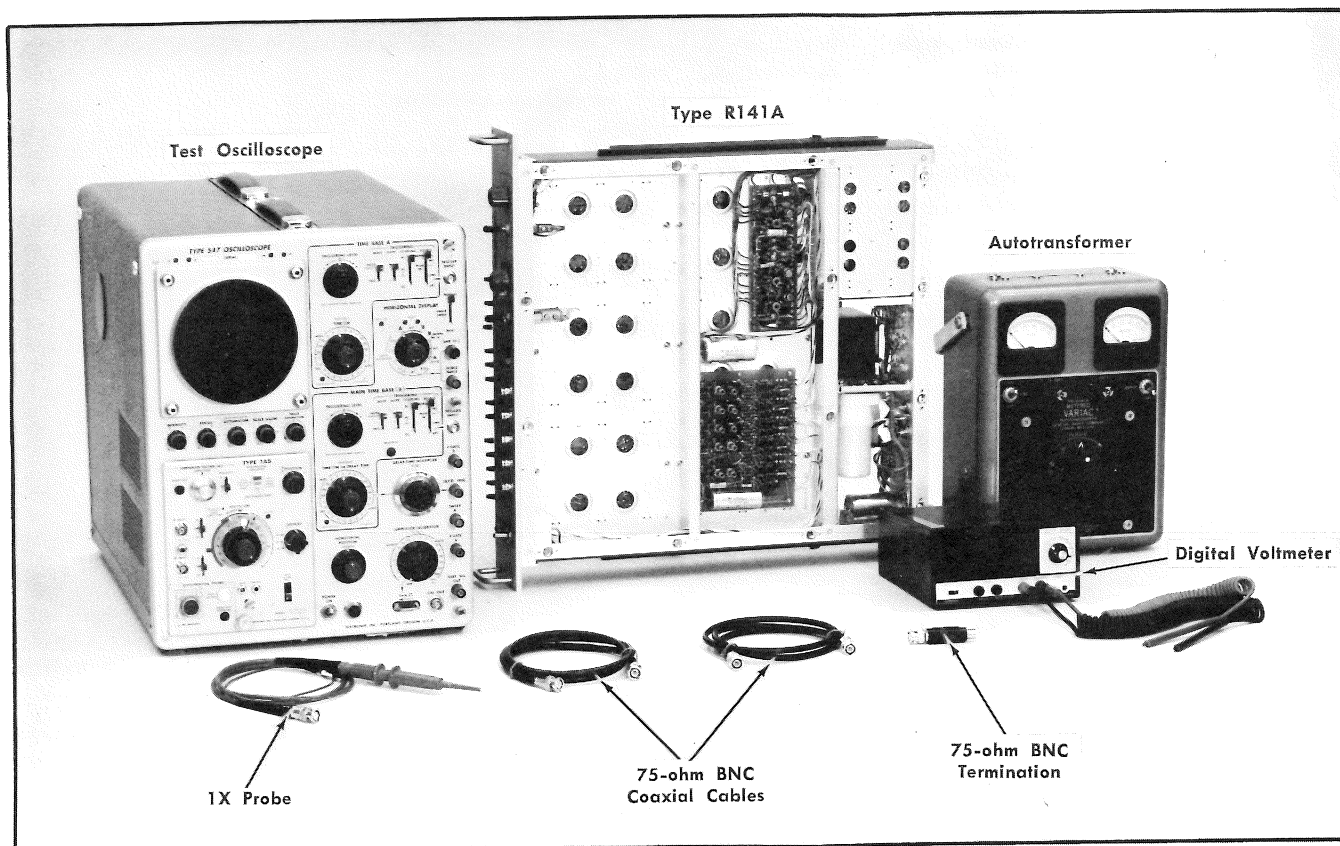

Fig. 5-1. Equipment required for steps 1 and 2.
6. Set the Type R141A and Test Equipment controls as described following Fig. 5-1.
- Test equipment is shown in Fig. 5-1.